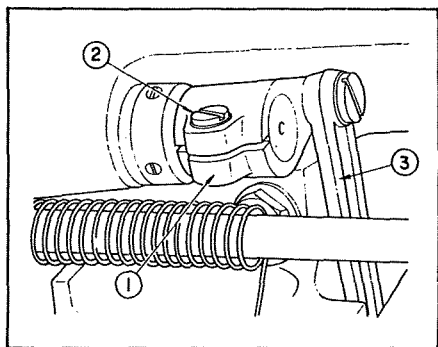
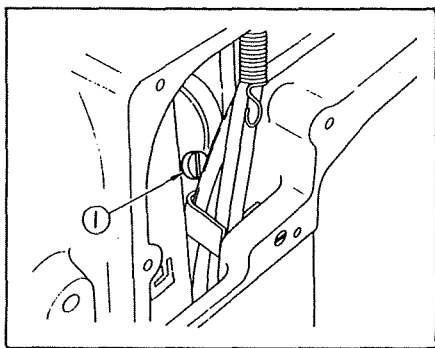

Fig. 27
Fig. 28
For adjusting the longitudinal position of the needle bar frame, loosen the clamp screw (② of Fig.27) on the needle bar rock shaft driving rod crank (① of Fig.27), adjust the needle bar so that the needles are pointed at the center of the needle hole on the feed dog and re-tighten the clamp screw.
If the rock shaft driving rod (③ of Fig.27) hits the surface of the arm, loosen the clamp screw (① of Fig.28) on the rock shaft driving arm (rear) before tightening the screw (① of Fig.27), pull the driving rod crank fully towards you, re-tighten the clamp screw (① of Fig.28) at the point where the said clearance between the needle bar and the presser bar becomes 16.5mm(21/32"), and finally align the needles with the needle holes on the feed dog as mentioned before.